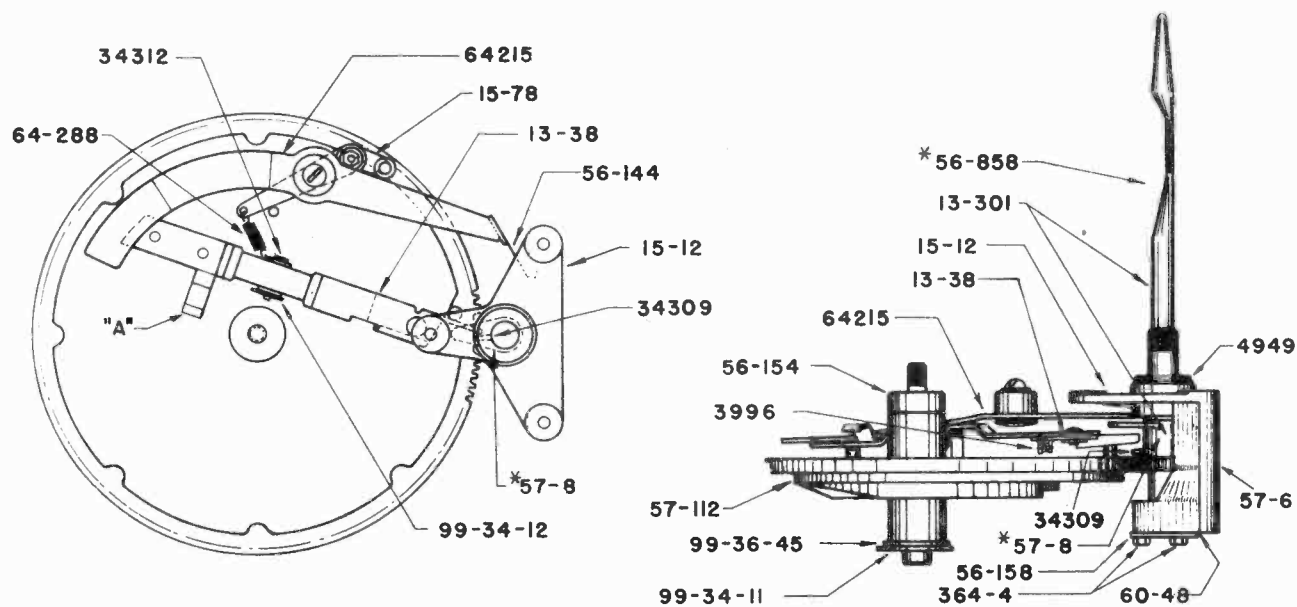
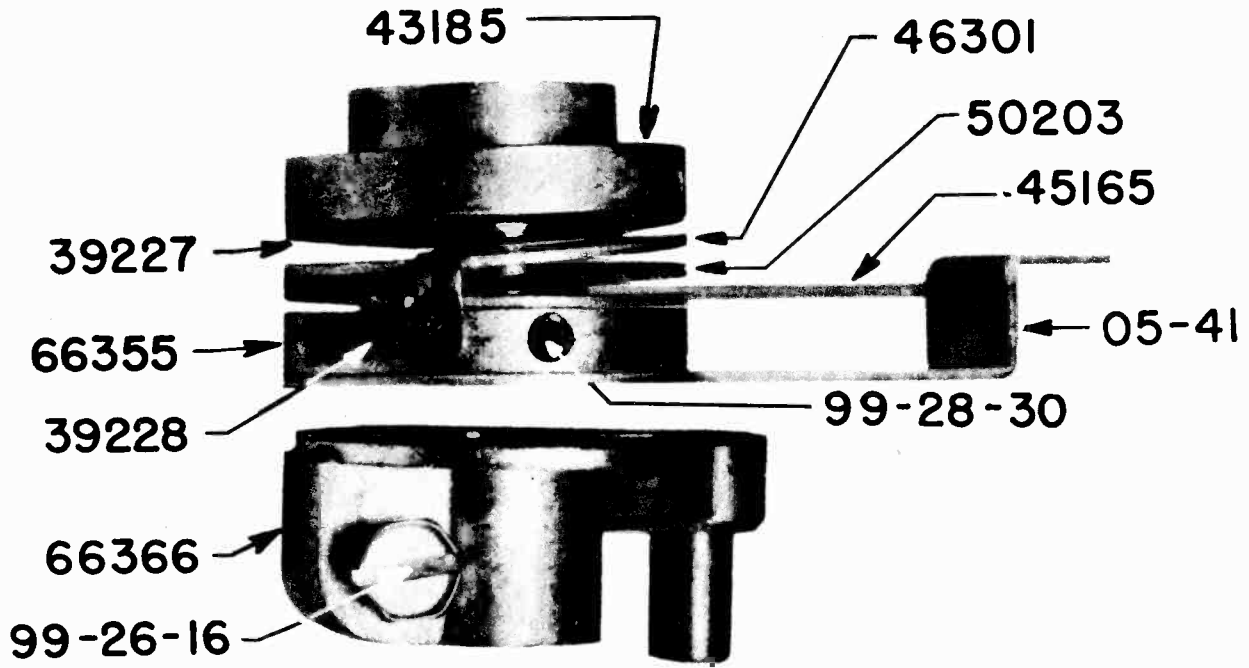

FIGURE 2
FIGURE 5
To check the tone arm for correct lift, rotate turntable (clockwise) by hand and push reject button in order to actuate trip. Turn slowly until tone arm reaches maximum height and starts to travel toward tone arm rest, then stop when the arm is approximately one inch from edge of turntable. Check the height of the tone arm from the surface of the turntable as indicated in Figure 5. From the lower edge of the tone arm to the top of the turntable the distance should be between 1 7/16" and 1 17/32". To adjust the tone arm lift screw (Fig. 2-A) loosen locknut and adjust screw until arm is within above tolerance, then tighten locknut.
4-7/8" from center of the Record Spindle. To adjust have record changer in playing position, loosen Tone Arm Set Screw 99-26-16 (Fig. 5) set needle 4-7/8" from center of Record Spindle. Hold Tone Arm Crank firmly against Tone Arm Swing Lever 09-119 (Fig. 2) at the same time hold the Tone Arm Crank firmly up against the Trip finger 46287 (Fig. 5). Tighten the Set Screw 99-26-16. There should be a small amount of play up and down in the tone arm. Next set the 12" drop. To adjust set the record shelves for 12" records and have record changer in playing position. Loosen Lock Nut 99-11-6; which is part of 09-119 and adjust Screw 36-465 until the needle drops 5-7/8" from the center of the Record Spindle. Be sure nut 99-11-6 is tightened after adjustment is made.
10. TRIP MECHANISM (Fig. 5)
The proper adjustment of the Trip Mechanism is, when the needle is 1-7/8" from the center of the record spindle, the Trip Finger 05-41 (Fig. 5) trips the Starting Lever Release Trip 64215 (Fig. 6).
To adjust tension loosen Bristol Set Screw 99-28-30 in Upper Collar 43185 (Fig. 5). Turn collar counter clockwise to increase friction (if changer does not trip at end of record) and clockwise to decrease friction (if changer trips before the end of the record). There should never be any more friction than is necessary to move Starting Lever Release Trip 64215 (Fig. 6) off the end of the Starting Lever 13-38 (Fig. 6).
In 10" position, adjust the Tone Arm. Crank-66366 (Fig. 5) so the needle lands